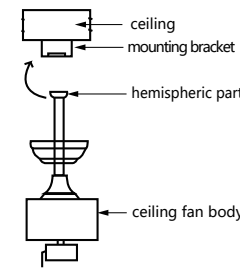

Figure 4
2. Hang the assembled ceiling fan on the mounting bracket, align the slot of the hemispheric part with the block out of the mounting bracket (See Figure 4 and Figure 5).